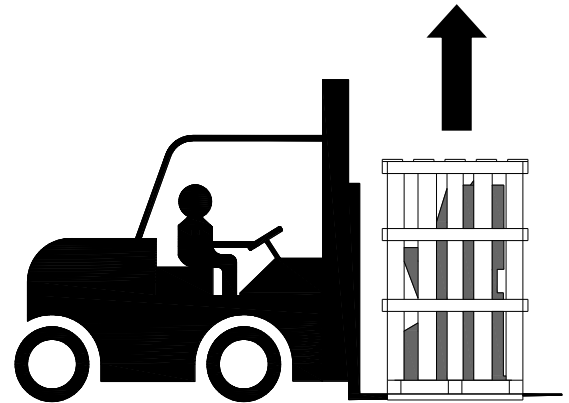

figure 1
- Always lift and carry the machine with straps on each end (fig. 1). Make sure the roller cover is open and clear of the straps.